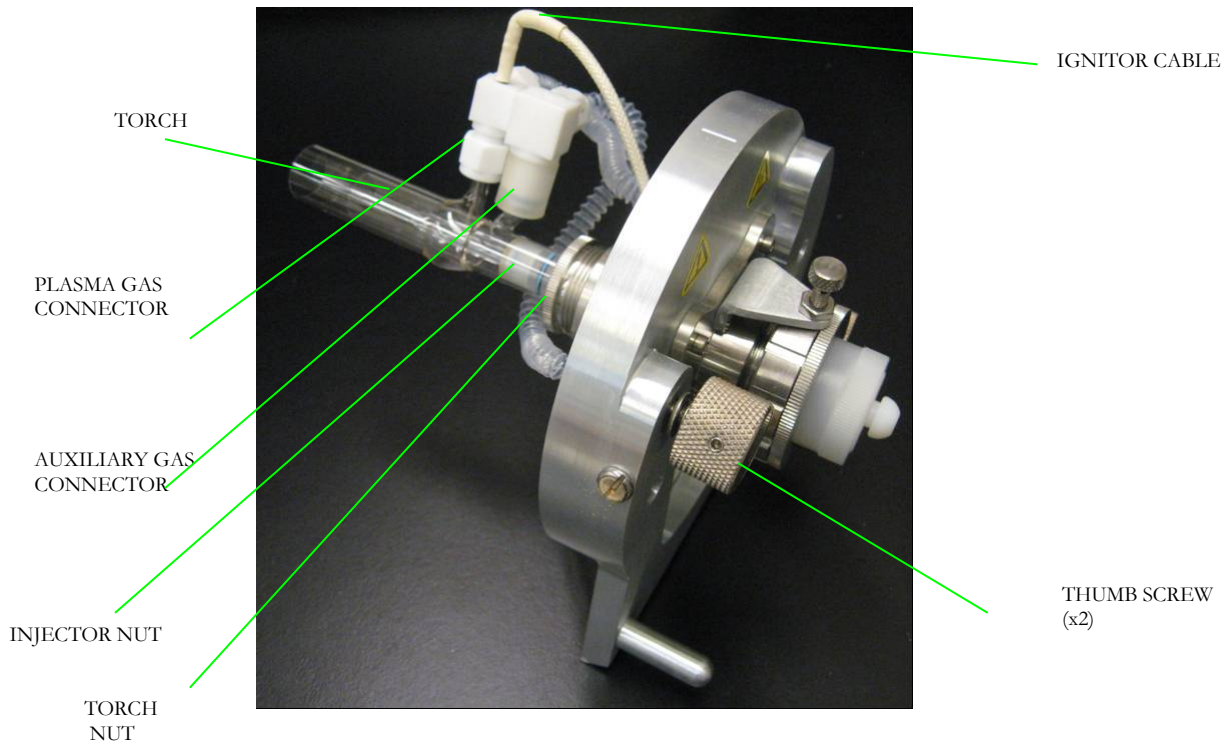

Figure 3.2. Photo of the removed Torch Holder Assembly
To remove the Torch holder Assembly, undo the two Thumb Screws (see Fig. 3.2), then slide the Holder out of the Torch Box (not shown). The Torch Holder Assembly can be placed securely on a horizontal surface for further handling.
- Undo the Plasma Gas Connector and Auxiliary Gas connector (see Fig.3.2.). You may need to slightly rotate the torch counter-clockwise around its axis by twisting motion in order to point the Plasma Gas side arm in such a way that both the Ignitor Cable and the Plasma Gas corrugated tubing allow to slide off the Plasma Gas Connector